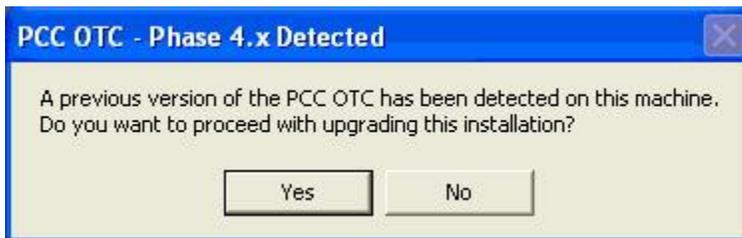

Figure 2.22
3. The screen should indicate that a previous version of PCC OTC has been detected (Figure 2.22). Click **‘Yes’** to continue.